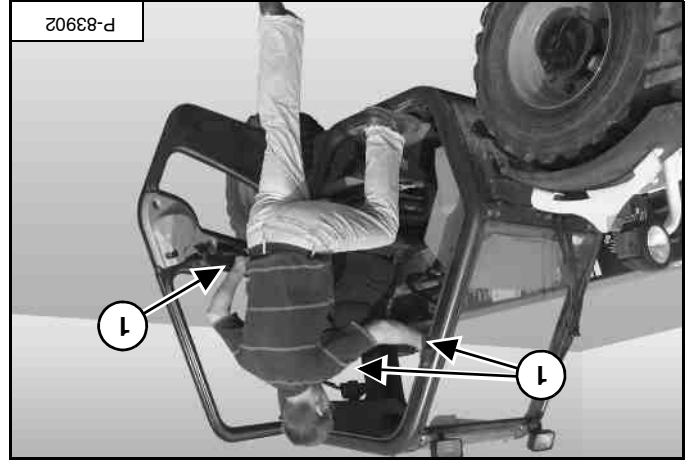

Figure 78
Use the hand grabs (item 1) [Figure 78] to enter the operator cab.